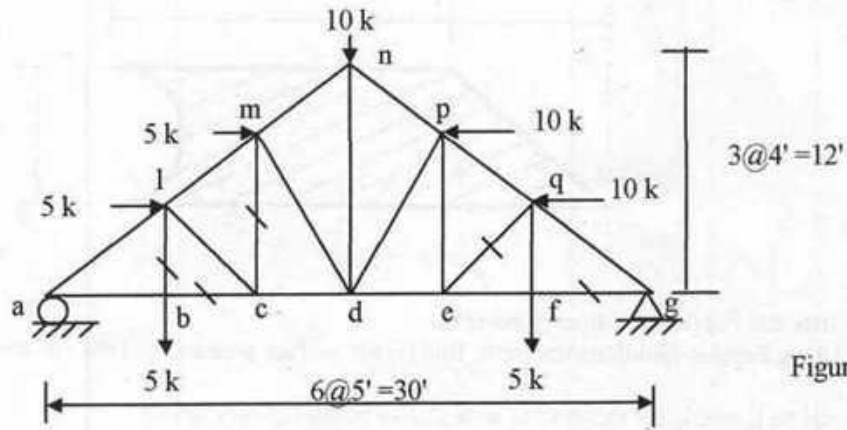

Figure-12
13. For the truss shown in Figure-12, find the forces in the members bl, mc, bc, eq and fg.